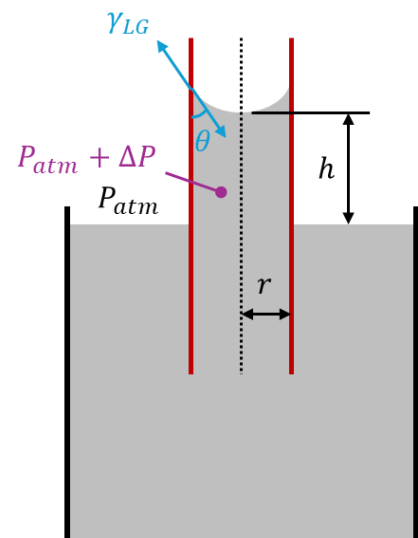

Figure 5. Analysis of a single capillary. We assume that the meniscus has a radius r . Other relevant parameters are shown in the drawing.
4. In the case of **Figure 5**, is the inner surface of the capillary, hydrophobic or hydrophilic? Justify your answer.